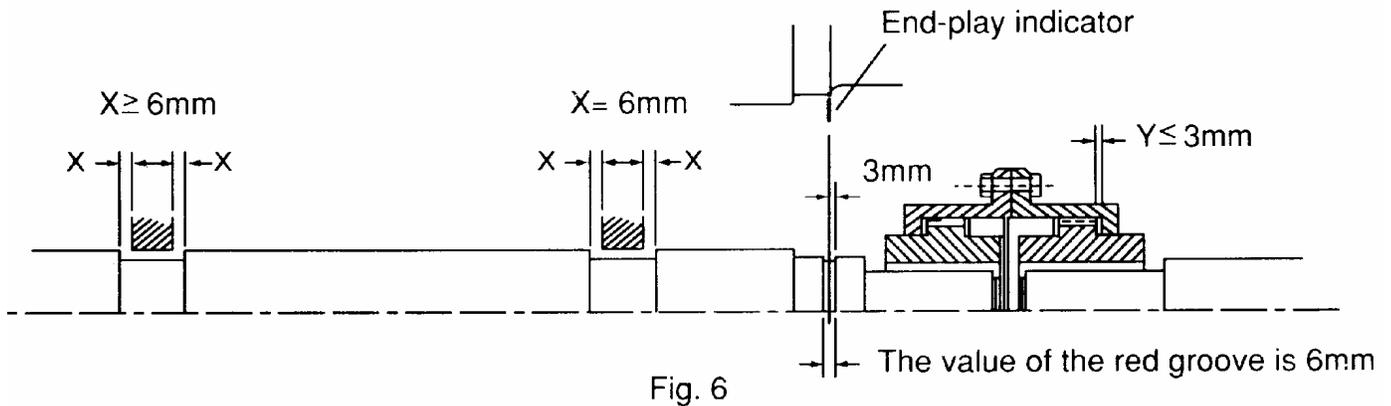

Fig. 6
- Unless otherwise specified, the designed end-play value X of the groove for TWMC motors in general is within 6mm (.236 in.) as illustrated in Fig. 6. In essence, the endplay indicator is adjusted to point at the center of the groove or the drive-end shaft shoulder; thus X equals to $6 \pm 1\text{mm}$ or so, and the endplay value (Y) of the couplings should equal or be smaller than 3mm (.118 in.).